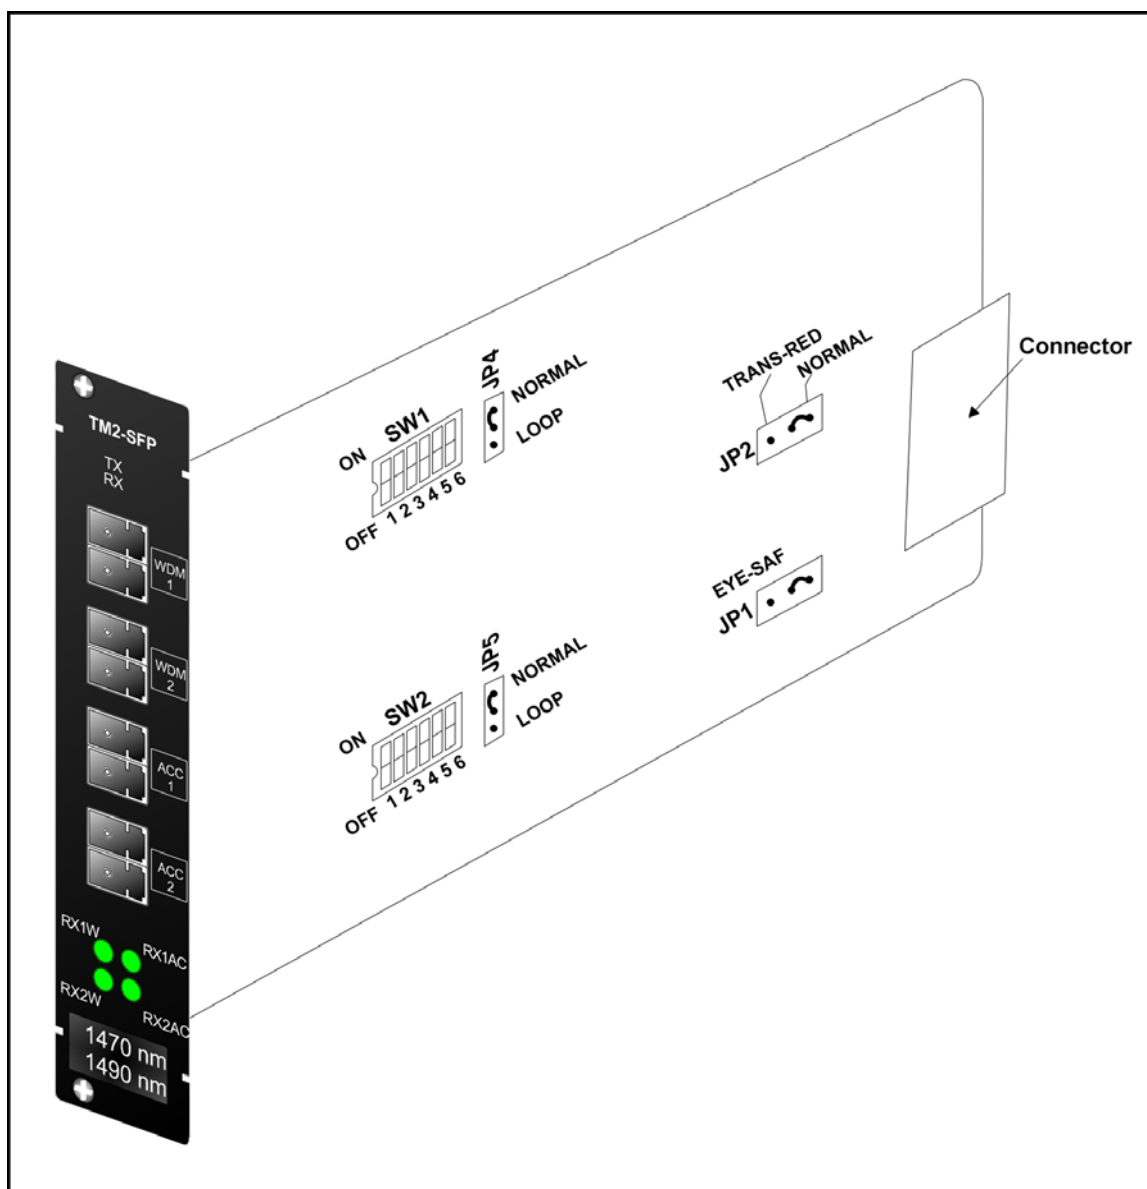

Figure 37: DIP Switch Location on TM2-SFP Transponder Module
- 1. With the aid of *Figure 37*, locate Jumper **JP1** on the TM2-SFP Transponder module and position it using *Table 10*.
- With the aid of *Figure 37*, locate Jumper **JP2** and position it using *Table 11*.
- With the aid of *Figure 37*, locate Jumpers **JP4** and **JP5** and position them using *Table 12*.
- With the aid of *Figure 37*, locate DIP switches **SW1** and **SW2** on the TM2-SFP Transponder module.